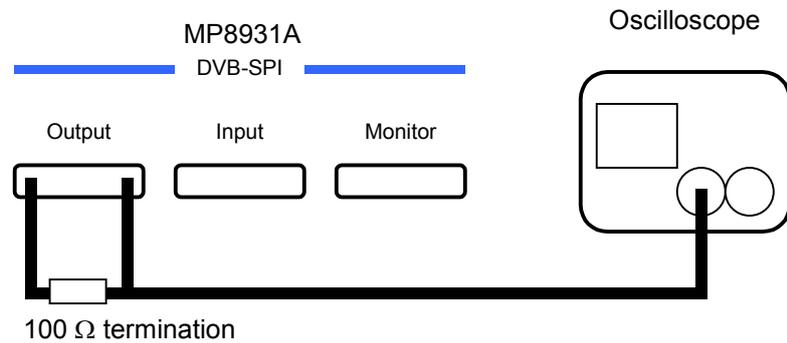

Fig. 6.4.3-1 Setup for DVB-SPI interface output level test
1. Set up the equipment as shown in Fig. 6.4.3-1.